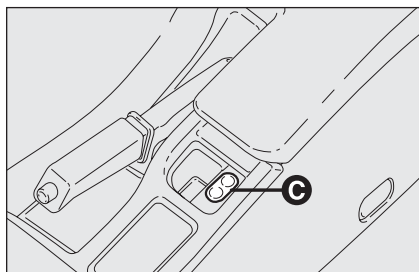

fig. 61
- ❑ When the top is opened/closed by pressing button **C-fig. 61**, and it is stopped in any intermediate position, also with the electronic key removed from the ignition device, the following conditions will take place:
- after 12 minutes, pressing button **C-fig. 61** it will only be possible to close the top;
- ❑ When starting to open/close the top, make sure that the windows slightly open automatically ("short drop"), otherwise release the top control button **C-fig. 61** and open both windows pressing the relevant button, or open the doors. Should this malfunctioning persist, contact Alfa Romeo Authorised Services.
Press button **C-fig. 61** side windows will open slightly.
Releasing button **C-fig. 61** during opening/closing, will automatically stop the top. In this event, the display will show a warning message + symbol.
Press button **C-fig. 61** to stow the top into its housing.
- ❑ Tighten the two knobs and close the top cover by pressing button **C**-fig. 61.